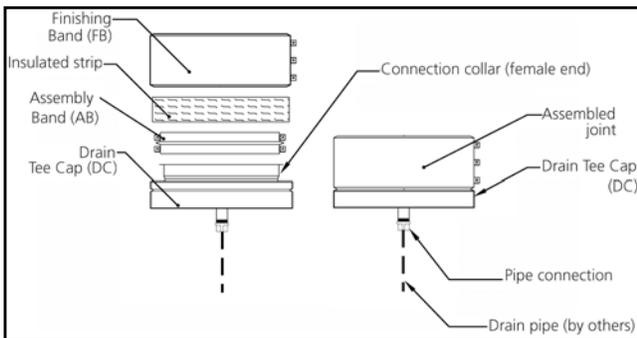

Figure B-4 - Drain Tee Cap
3. Like the 90° Tee (T90), a Tee Cap (TC) or Drain-Tee Cap (DC) may be used to block one of the openings for purposes of cleaning, inspection or drainage. See Fig B-4 and B-5 for tee caps installation.
4. The 45° Tee (T45) will support 20 to 30 feet of vertical vent height when it is supported from below. The assembly includes a Finishing Band (FB), Assembly Band (AB), and insulation strip (where applicable).